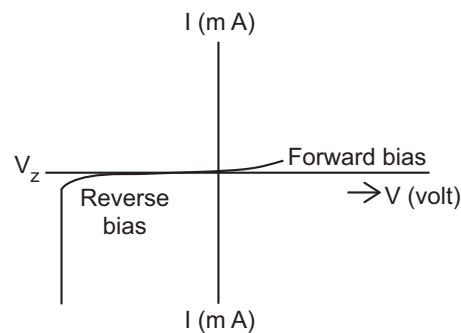

Fig. 28.12
Zener diode is fabricated by heavily doping both the *p*- and *n*-sides of the junction. Hence depletion layer formed is very thin ($< 10^{-6}$ m). And the electric field across the depletion layer is extremely high ($\sim 5 \times 10^6$ N C⁻¹) even for a small reverse bias voltage of 5 V. The I-V characteristics of a Zener diode is shown in Fig. 28.12. It is seen that when the applied reverse voltage (V) reaches the breakdown voltage (V_z) of the Zener diode, there is a large change in the current. After the breakdown voltage v_z , a large change in the current can be produced by almost insignificant change in the reverse bias voltage. Zener voltage remains constant, even though the current through the Zener diode varies over a wide range.